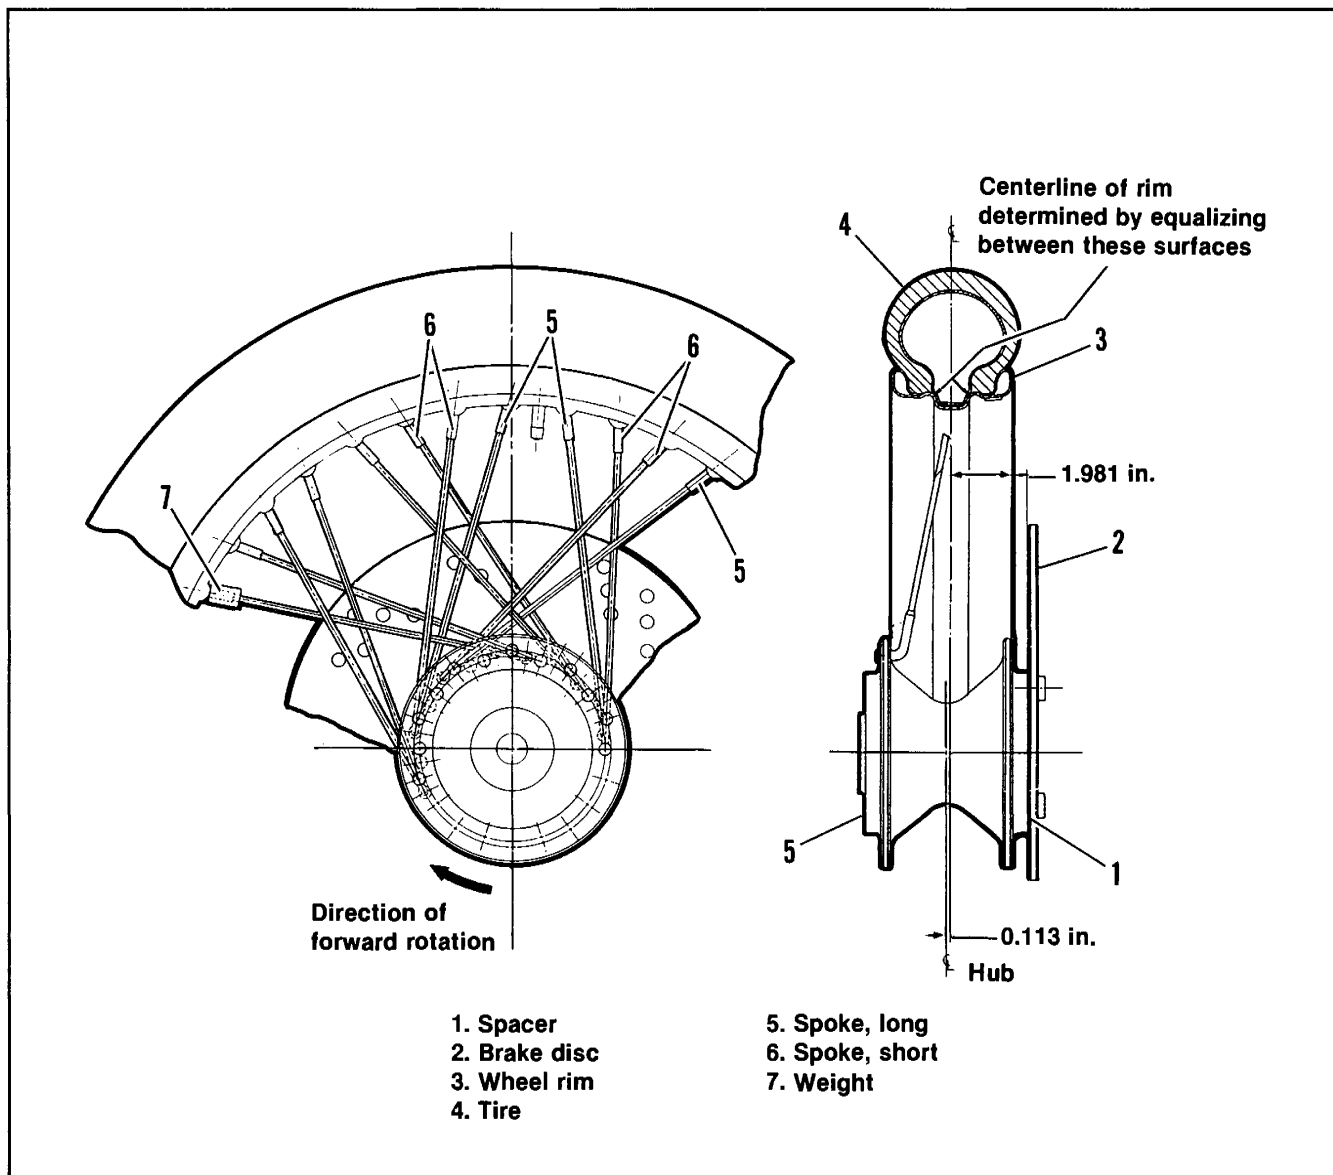

Figure 2-19. Lacing Wheel — 21 in.
2. See Figure 2-19. Place hub on bench either side up. At each flange there is an inner hole circle and an outer hole circle. The spokes with the long heads (5) are installed in the inner hole circle and the spokes with the short heads (6) are installed in the outer hole circle. Insert all spokes in both hub flanges.
10. True the wheel in wheel truing stand. See Figure 2-19. When truing the wheel the hub is offset from the center of the wheel rim as shown. See **TRUING LACED WHEEL**.
See Figure 2-19. When truing the 21 in. wheel, the wheel hub must be offset 0.113 in. from the center of the wheel rim as shown. The hub is offset toward the brake side to provide clearance between the caliper and the spokes.